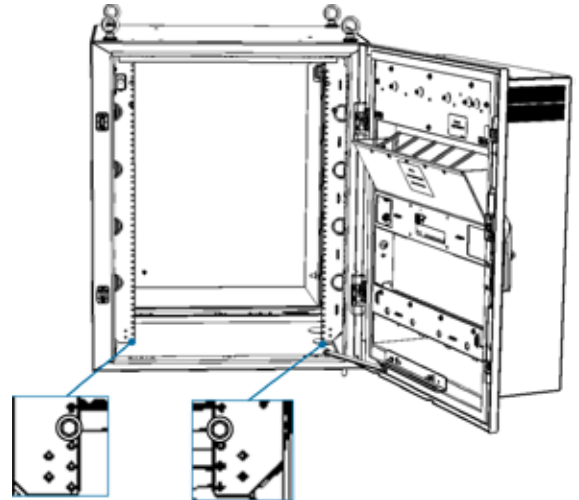

Figure 5. Inserting Self-Tapping Screw in each Rail
Step 2: Insert one 8 mm self-tapping screw (provided with the cabinet) halfway into the bottom hole of each rail. Refer to Figure 5.